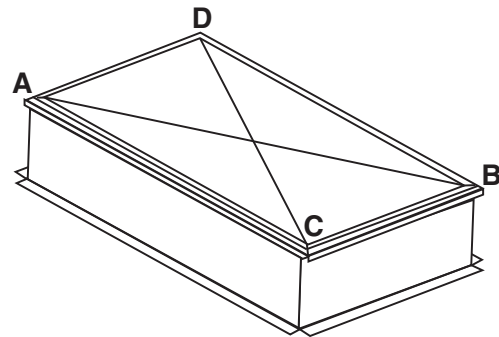

Fig. 4 — Squaring Frame
6. Square up the roof curb (see Fig. 4) and position over the roof opening. Level the curb to maintain leveling tolerance specified in unit instructions. Secure the roof curb to the roof structure by welding or screwing in place.